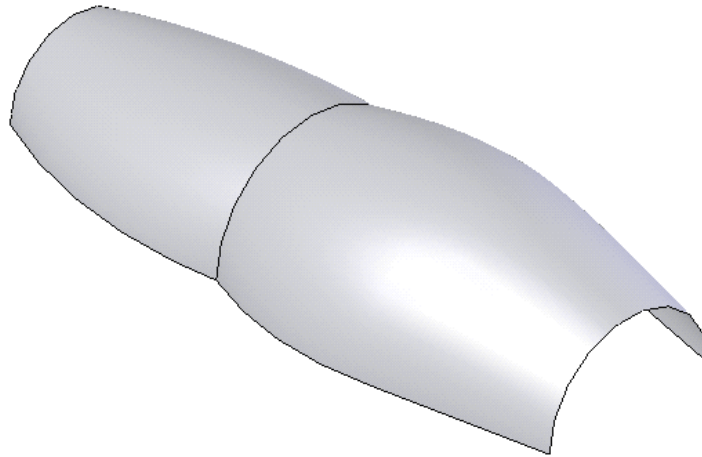

Figure 15-120 Resultant lofted surface
4. Using the **Lofted Surface** tool create the lofted surface as shown in Figure 15-120.